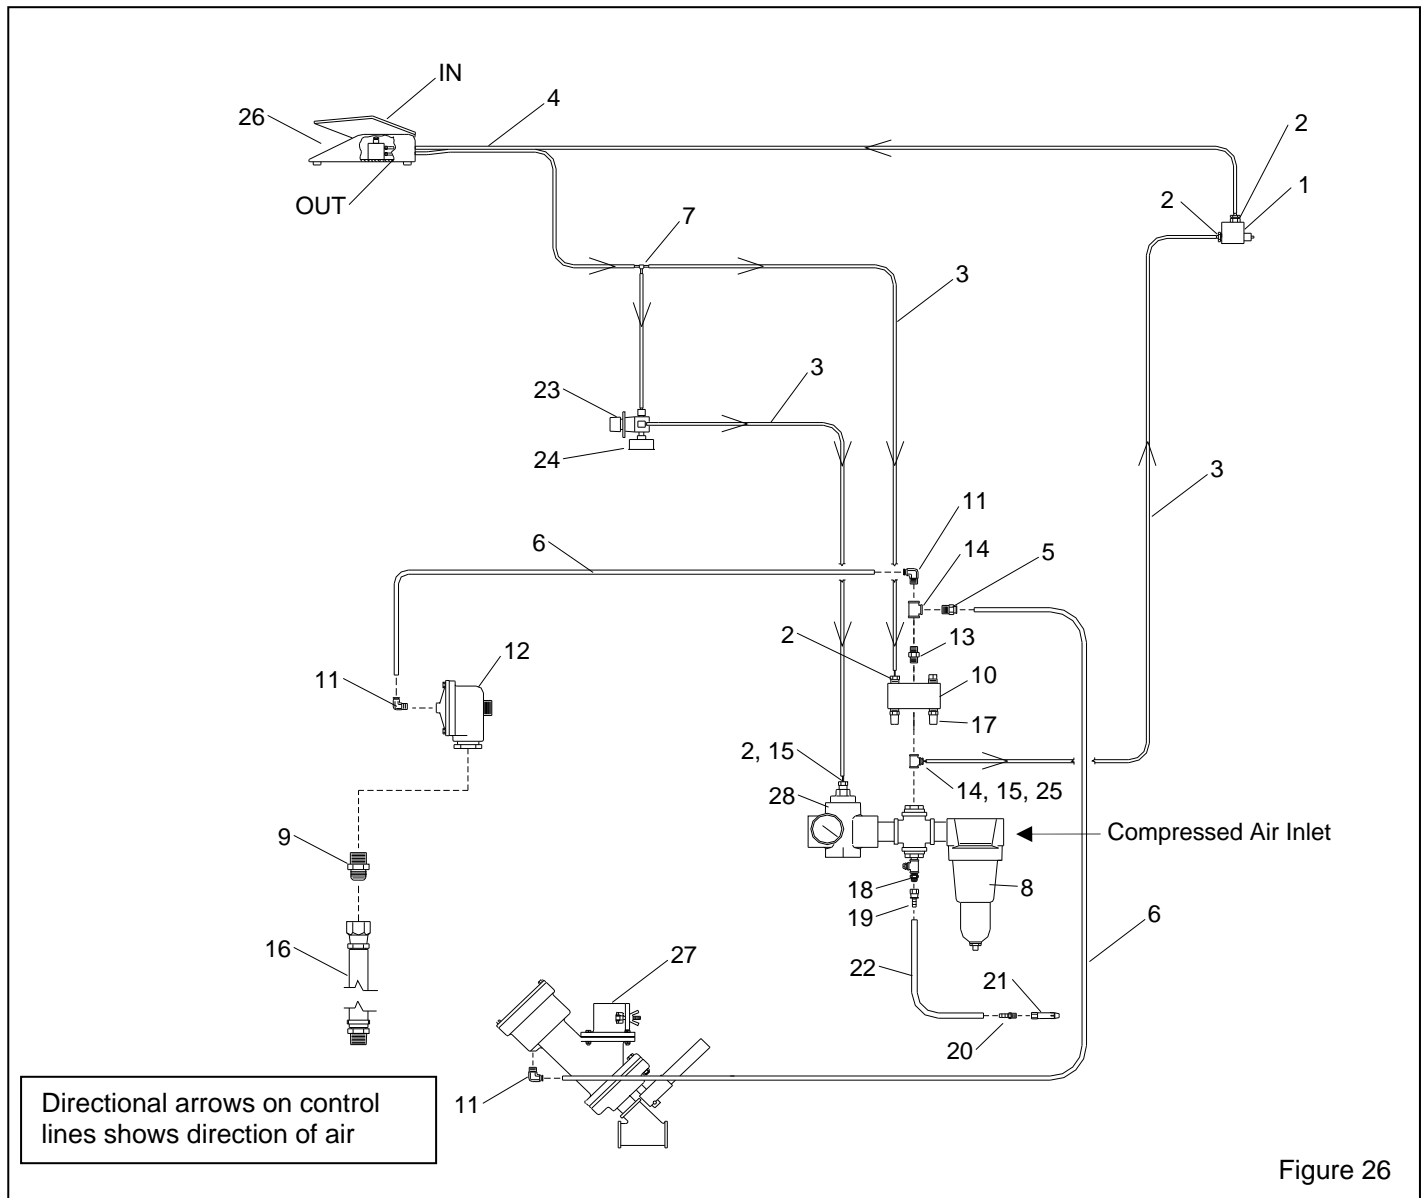

Figure 26
9.4 Plumbing and Air Schematic, Figure 26